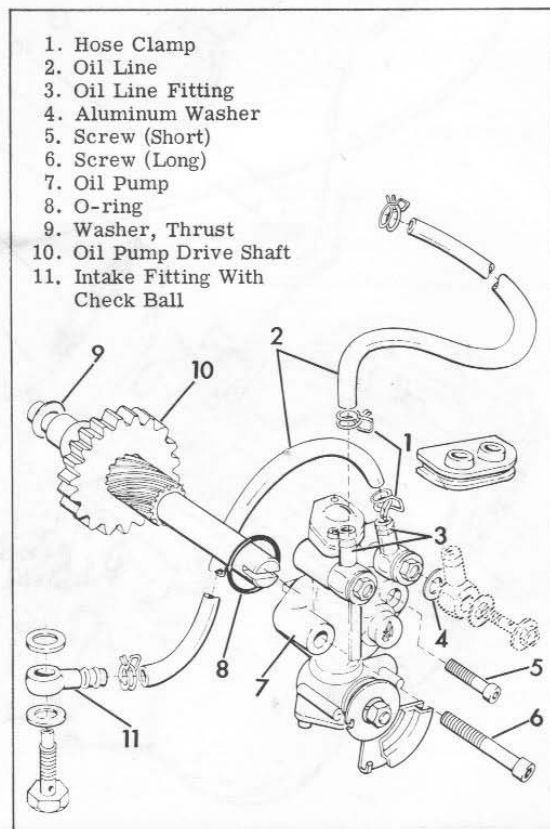

Figure 3.39. Oil Pump and Drive
Refer to Figure 3.39. If oil pump must be replaced, proceed as follows. Disconnect oil pump control cable. Remove hose clamps (1). Pull oil lines (2) off oil line fittings (3) at pump and plug oil lines with protective plastic caps. Do not remove oil line fittings. If these fittings are removed for any reason, replace aluminum washers (4) with new ones to insure proper seal. Remove mounting screws (5) and (6) and pump (7). Remove and discard O-ring (8). Whenever a pump is removed from an engine, use a new O-ring in reassembly. Assemble new pump and O-ring to engine. Make sure mating faces on pump and crankcase cover are clean. Tighten mounting screws (5) and (6) and torque. Overtightening mounting screws may cause distortion of pump body casting and binding of internal parts. Remove and discard protective plastic caps on oil pump fittings and connect oil lines using hose clamps.